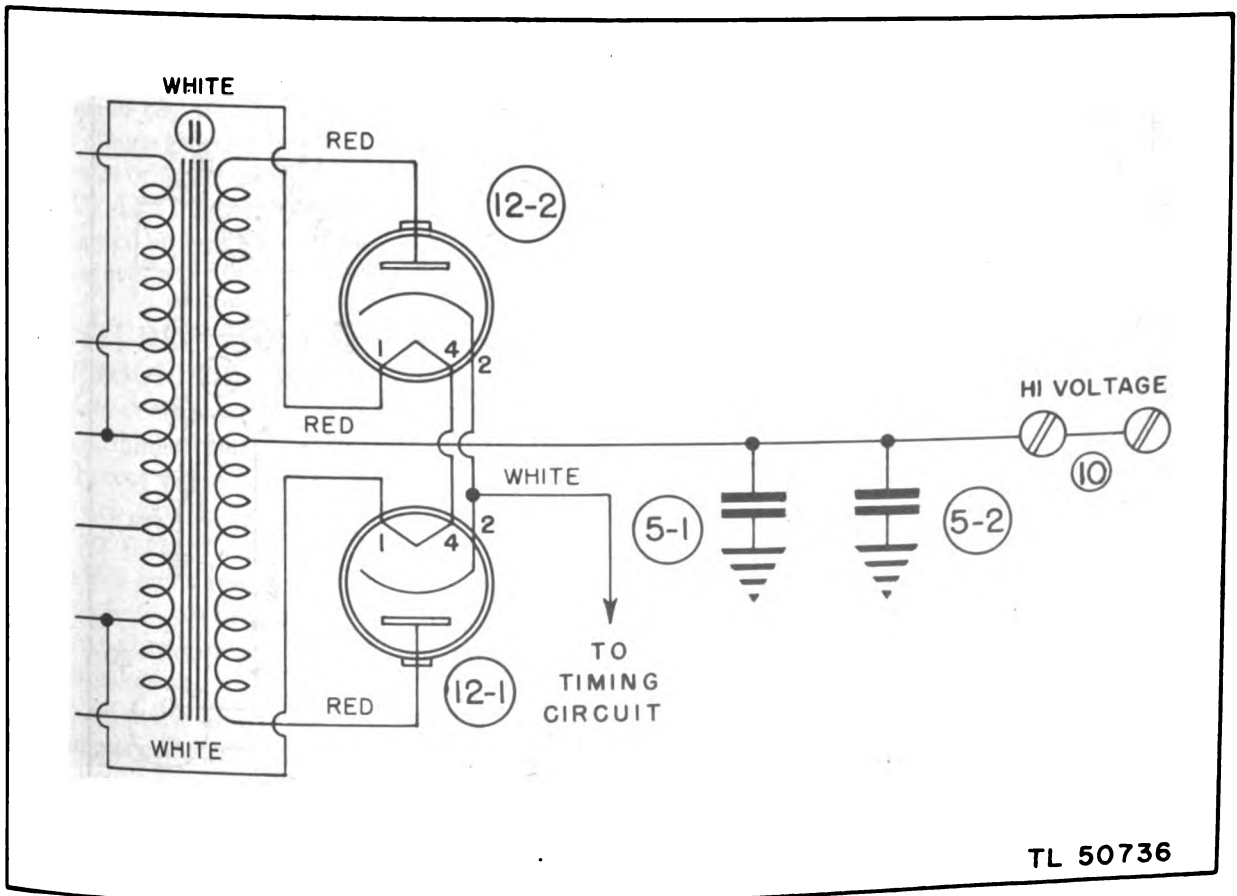

Figure 18. High-voltage secondary circuit, Voltage Converter PP-50/VVX-1X.
(2) A 1-mfd, 165-volt a-c capacitor (2-2) serves as the buffer and is connected to the ends of the transformer primary winding.
(3) A 0.5-mfd, 50-volt d-c capacitor (4) is the input RF filter capacitor.
(4) Another 0.5-mfd, 50-volt d-c capacitor (3-1) and a 5-ohm, 1/2-watt resistor (14) serve as the vibrator driver-point suppressors and provide improved vibrator operation.
(5) Another 1-mfd, 165-volt a-c capacitor (2-1) serves as the primary buffer.
b. *High-voltage Secondary Circuit (fig. 18).* The ends of the center-tapped winding of the power transformer (11) are connected to the plate terminals of two 12 X 3 rectifier tubes (12-1) and (12-2). The resulting d-c output, which is taken from the transformer secondary center tap, charges two 23-mfd, 2,000-volt d-c capacitors (5-1) and (5-2).